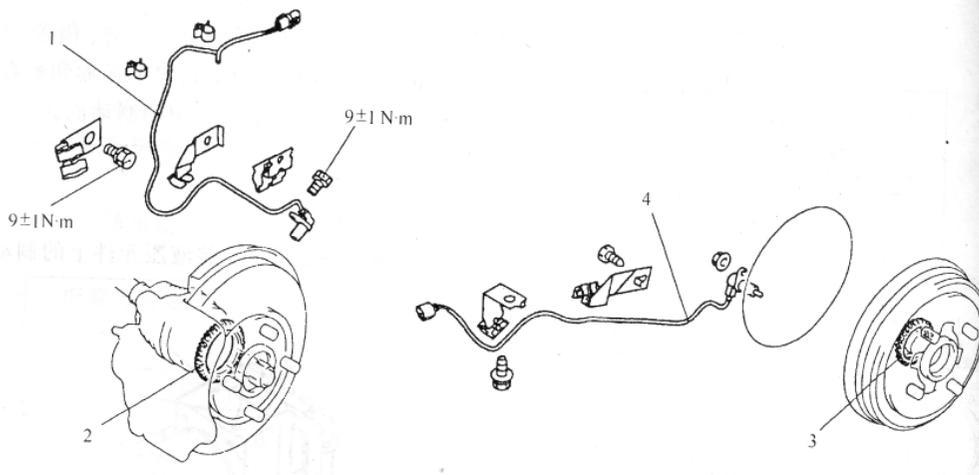

Fig. 16-64
1) Removal and Installation (see Fig.16-64)